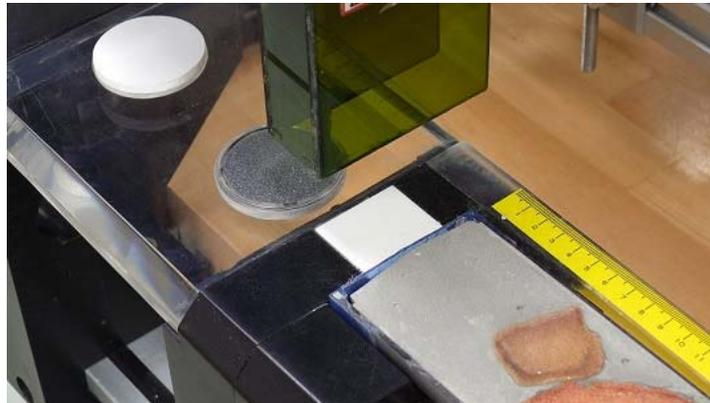

Figure 27. Benchmark
3. Place the archive section in the core tray with the blue endcap up against the benchmark. The benchmark is the white square at the head of the rails that hold the section halves (Figure 27).